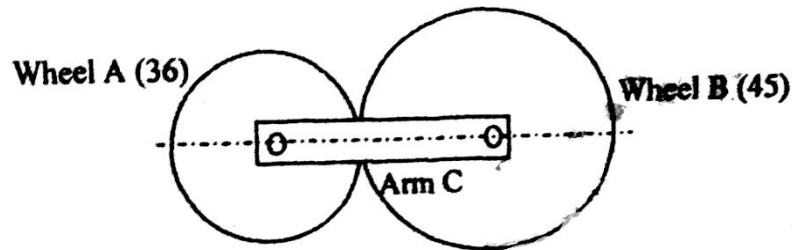

Fig 14(b)
**5) In the epicyclic gear train shown in Fig 14 (b) (i) the compound wheels A and B as well as interval wheels C and D rotate independently about the axis O. The wheels E and F rotate on the pins fixed to the arm a. All the wheels are of the same module. The number of teeth on the wheels are  $T_A = 52$ ,  $T_B = 56$ ,  $T_E = T_F = 36$ .**